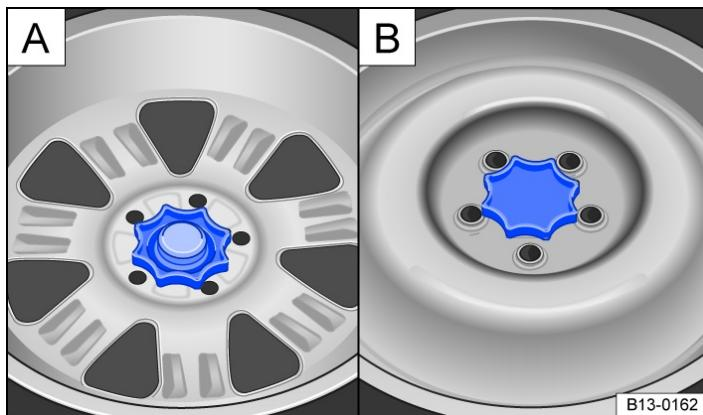

Fig. 1 In the luggage compartment: **A**: handwheel for securing spare wheel, **B**: handwheel for securing temporary spare wheel.
- Fully unscrew the handwheel in the middle of the spare wheel → *Fig. 1 A* or temporary spare wheel **B** anticlockwise.